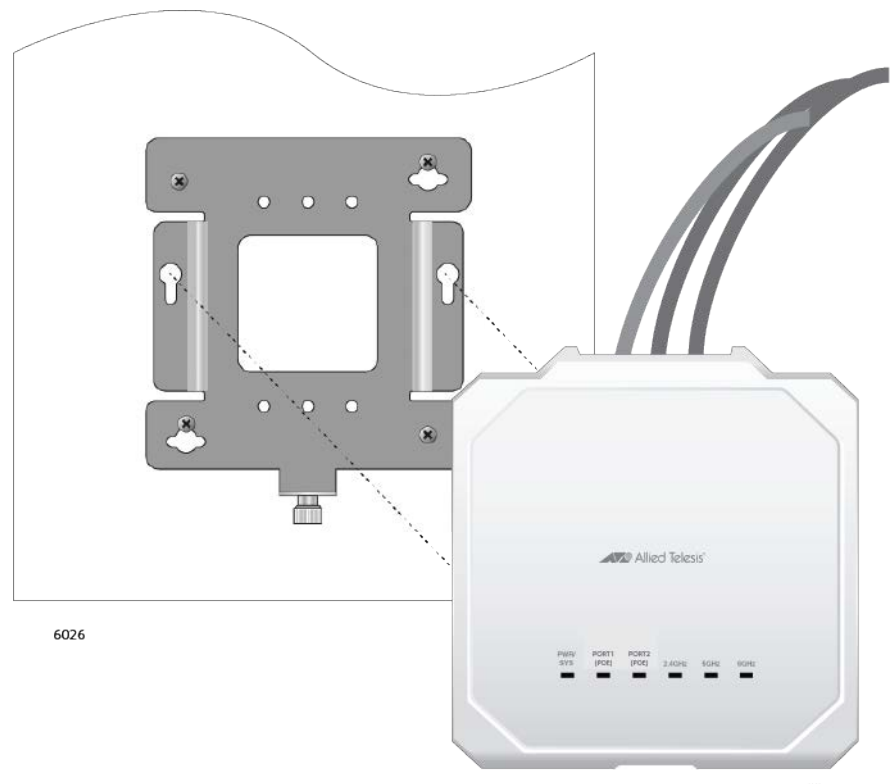

Figure 24. Installing the Access Point on the Mounting Bracket
1. Align the bottom of the access point over the bracket so that the two screws on the bottom of the device fit into the bracket keyholes. Refer to Figure 24. (These are the two access point chassis screws installed in “Pre-fitting the Mounting Bracket on the Access Point” on page 32.)